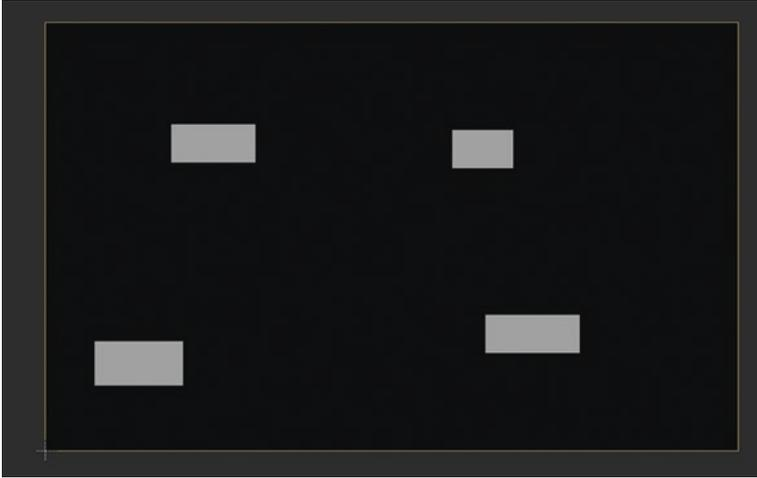

Figure 7-9. Add the rest of rectangles to the layout
7. Create three more of these rectangles. See Figure 7-9.